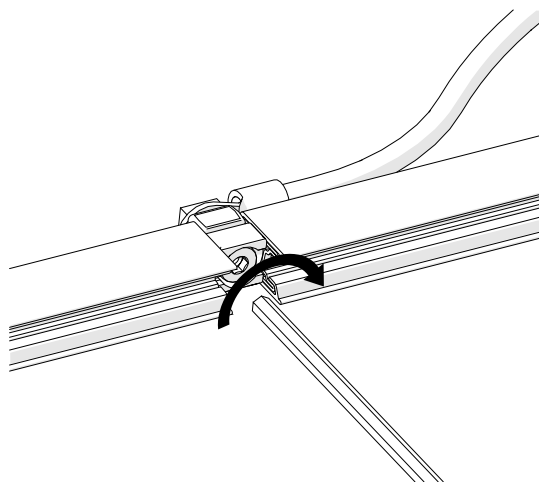

Fig. 111: Slide the line feed cover over the mounted connector line feed
- Tighten the cylinder screw to 2 Nm (see Fig. 111).